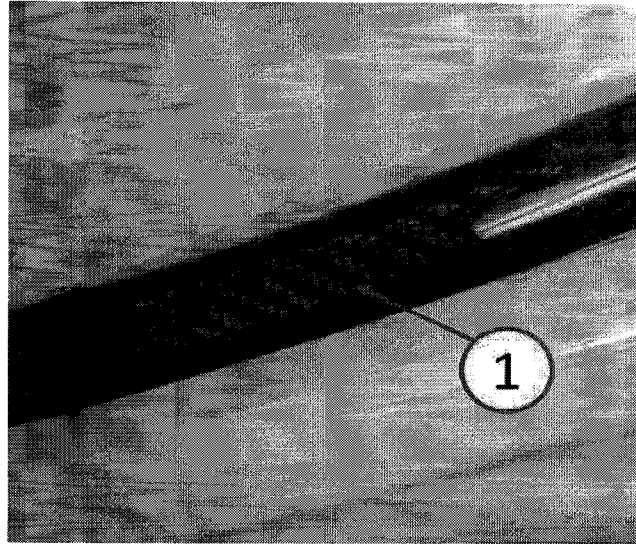

Fig. 7 Surface Condition Removed
5. After the defects have been removed and the finish is polished, wipe the polished areas with Meguiars M34 Mirror Glaze® Final Inspection or equivalent using Meguiars M99 Ultimate Wipe Detailing Cloth or equivalent. This will yield added depth, shine and protection (Fig. 7).